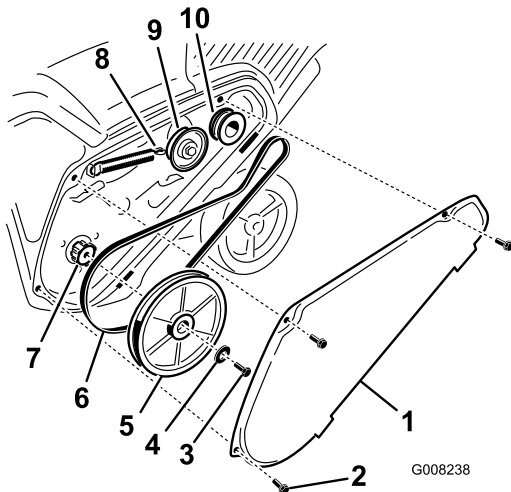

Figure 35
1. Remove the drive belt cover by removing the 3 bolts as shown in Figure 35.
2. Unhook the brake spring from the idler arm to release the belt tension (Figure 35).
3. Remove the screw and curved washer that holds the rotor pulley (Figure 35).
4. Remove the rotor pulley and the drive belt (Figure 35).
the loose rotor pulley positioned just above the rotor shaft (Figure 35).
6. Install the rotor pulley onto the rotor shaft (Figure 35).
7. Install the curved washer and the rotor pulley bolt and tighten them securely (Figure 35).